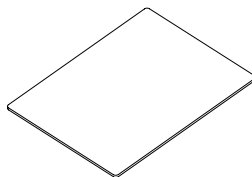

Figure 26
- The filament protective glass must not be tampered with by the user. This component is critical for the safe operation of the product, and all required procedures must be carried out only by authorized technical service personnel (Figure 26).